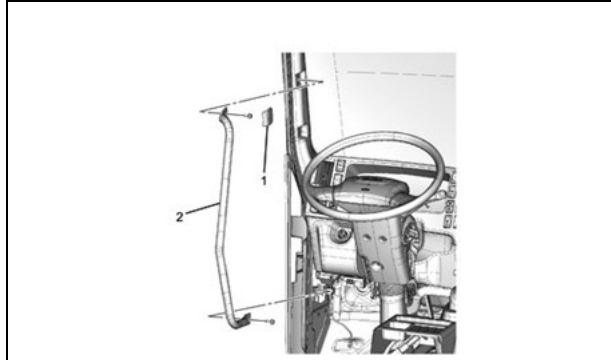

Figure 12
9. Open the assist handle upper cover using a flathead screwdriver and remove the upper bolt. Then remove the lower bolt of the assist handle and remove the assist handle from the front pillar. (See Figure 12.)